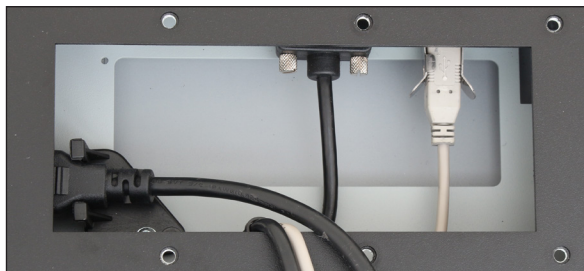

FIGURE 1
1. Refer to Figure 1. Connect all cables to the monitor. Secure cables by completely turning all strain relief screw locks. Use the USB strain relief clip to secure USB cables. Secure AC power cable with supplied retaining clip.